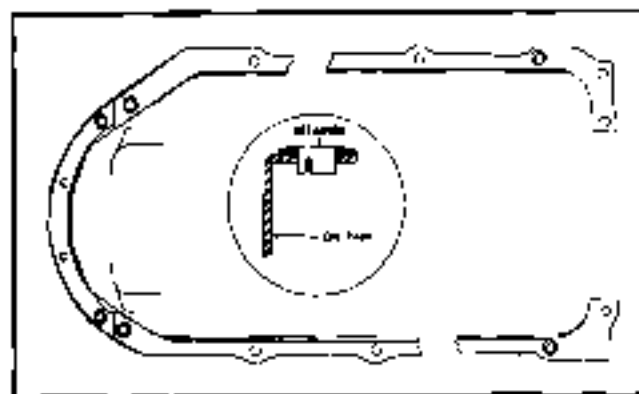

Fig. 6-101 Oil Pan Gasket Retainers
1. Install new gasket on oil pan (Fig. 6-101, 6-102, 6-103).
1. Install new gasket on oil pan using gasket retainers (Figs. 6-101 and 6-102).